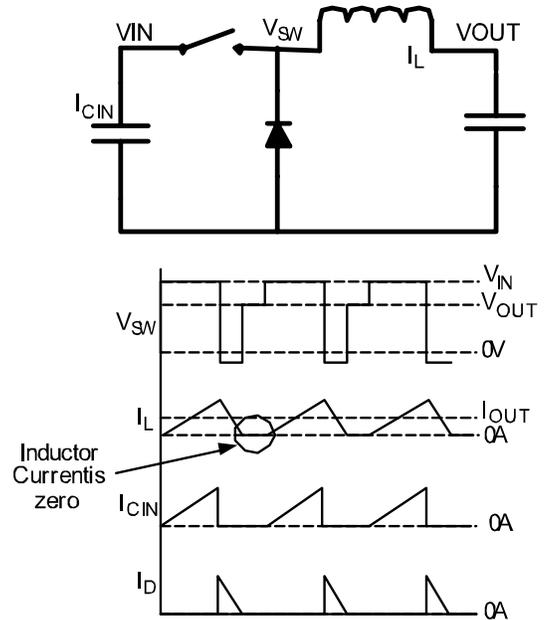

Figure 5. Discontinuous Operation
Discontinuous operation is when the inductor current discharges to zero at sometime during the off cycle. Figure 5 demonstrates the switch voltage and inductor currents during discontinuous operation.
When the inductor current (IL) has completely discharged, the voltage on the switch node rings at the frequency determined by the parasitic capacitance and the inductor value. In figure 5, it is drawn as a DC voltage, but to see actual operation (with ringing) refer to the functional characteristics.